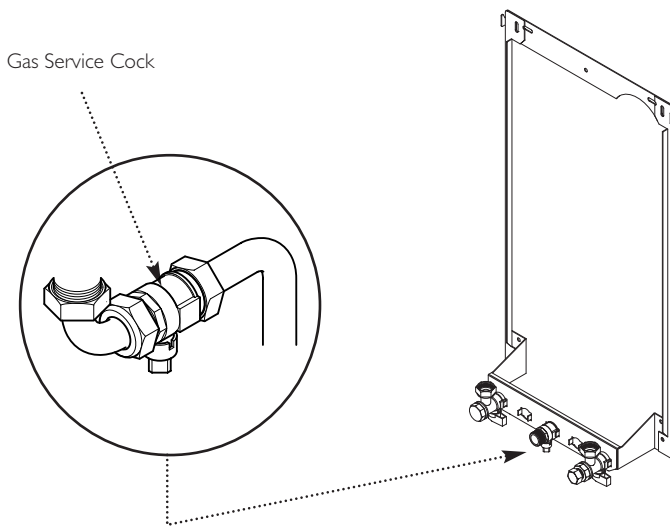

Fig. 7
2. The connection to the appliance is a 22mm copper tail located at the rear of the gas service cock (Fig. 7).